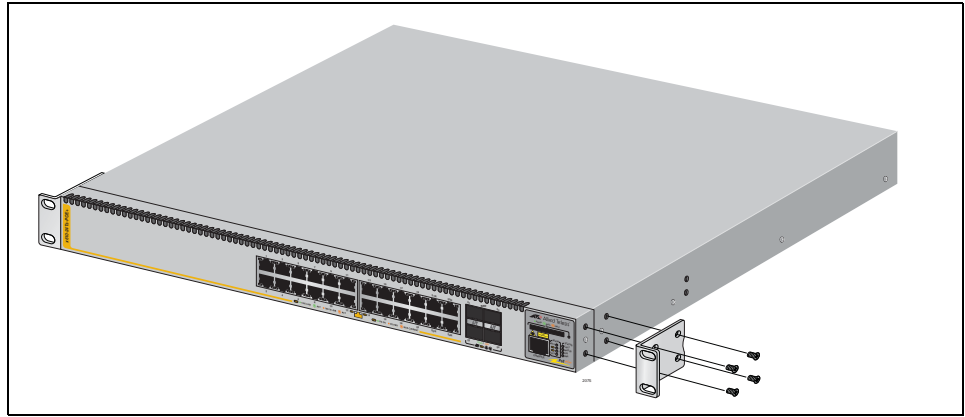

Figure 37. Attaching Rack-Mount Brackets
4. Attach a rack-mount bracket to one side of the switch using six of the screws that come with the switch and then install the second rack-mount bracket on the other side of the switch with the six remaining screws, as shown in Figure 37.